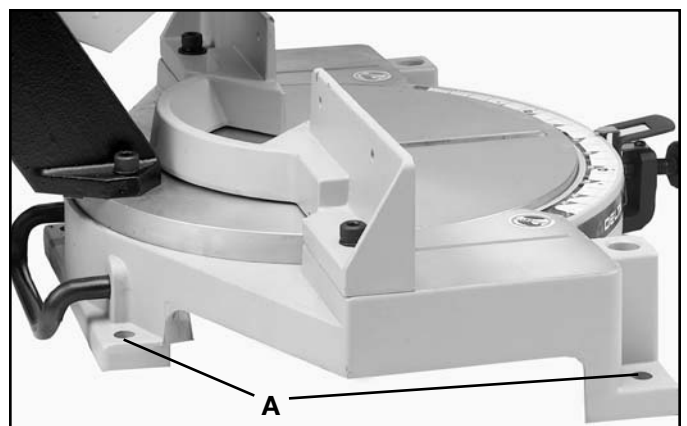

Fig. 8
Before operating your compound miter saw, make sure it is firmly mounted to a sturdy workbench or other supporting surface. Four holes are provided, two of which are shown at (A) Fig. 8, for fastening the saw to a supporting surface.